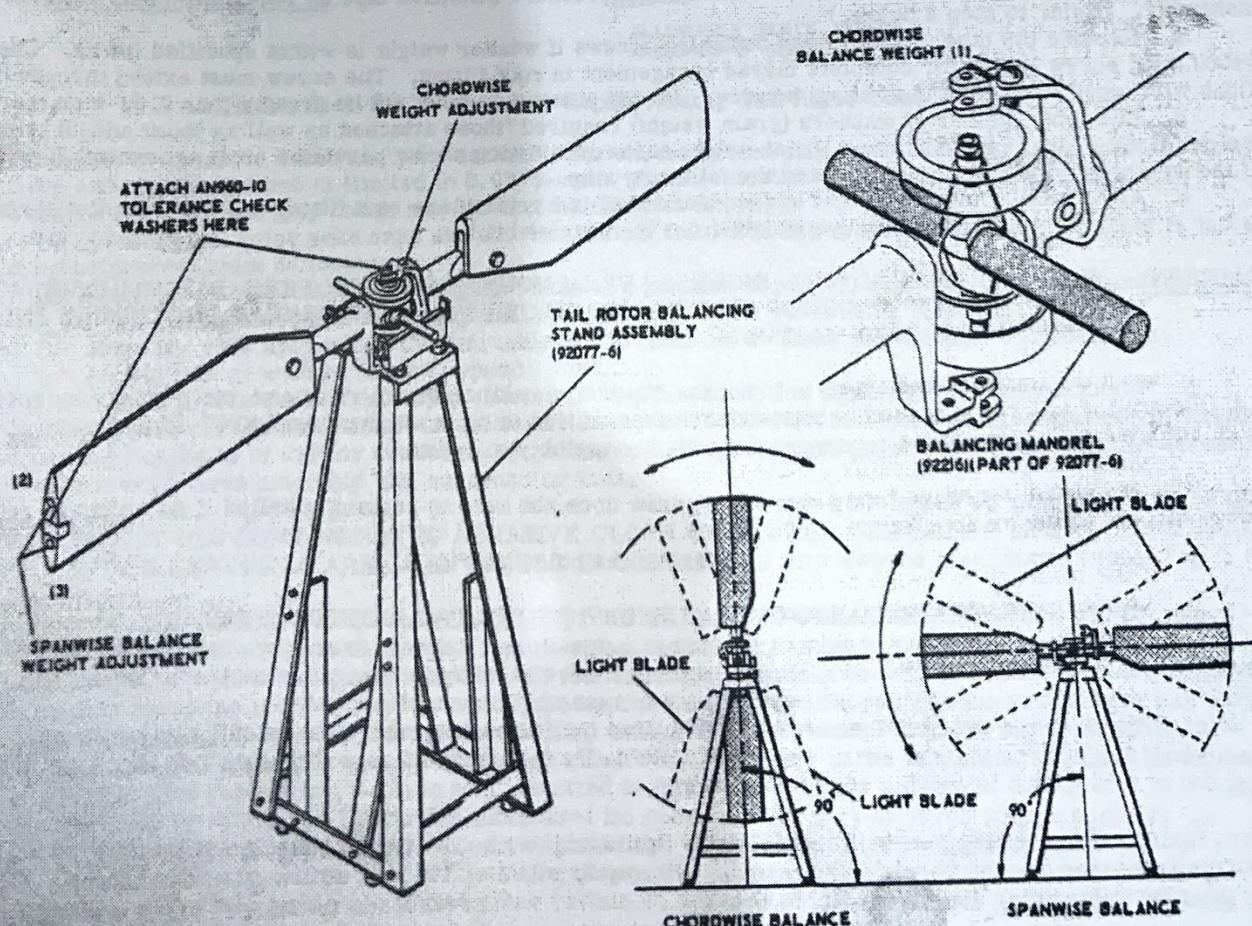

Figure 55-1-4. Balancing the Tail Rotor Assembly
55-1-30. TAIL ROTOR ASSEMBLY BALANCE CHECK. (See figure 55-1-4.) New or overhauled individual tail rotor blades and the hub and yoke assembly are prebalanced to uniform standards. Assembly balancing is normally not required during general maintenance if only prebalanced parts are installed. If, however, it becomes necessary to replace a blade or blades with parts which do not conform to the uniform prebalanced standard, assembly balancing of the tail rotor assembly is permissible. Accomplish a flight test to determine the tail rotor balance condition after installation of a new or overhauled tail rotor blade assembly or assemblies. If the assembly balance is satisfactory for continual flight, it will not be necessary to perform assembly balancing.
- c. Install tail rotor balancing mandrel (item 37, table 92-1-1).
- d. Place mandrel across the knife edges of the tail rotor balancing stand assembly (item 39, table 92-1-1) as shown in figure 55-1-4.
55-1-31. SPANWISE BALANCING OF TAIL ROTOR ASSEMBLY. (See figure 55-1-4.)
55-1-32. CHORDWISE BALANCING OF TAIL ROTOR ASSEMBLY. (See figure 55-1-4.)